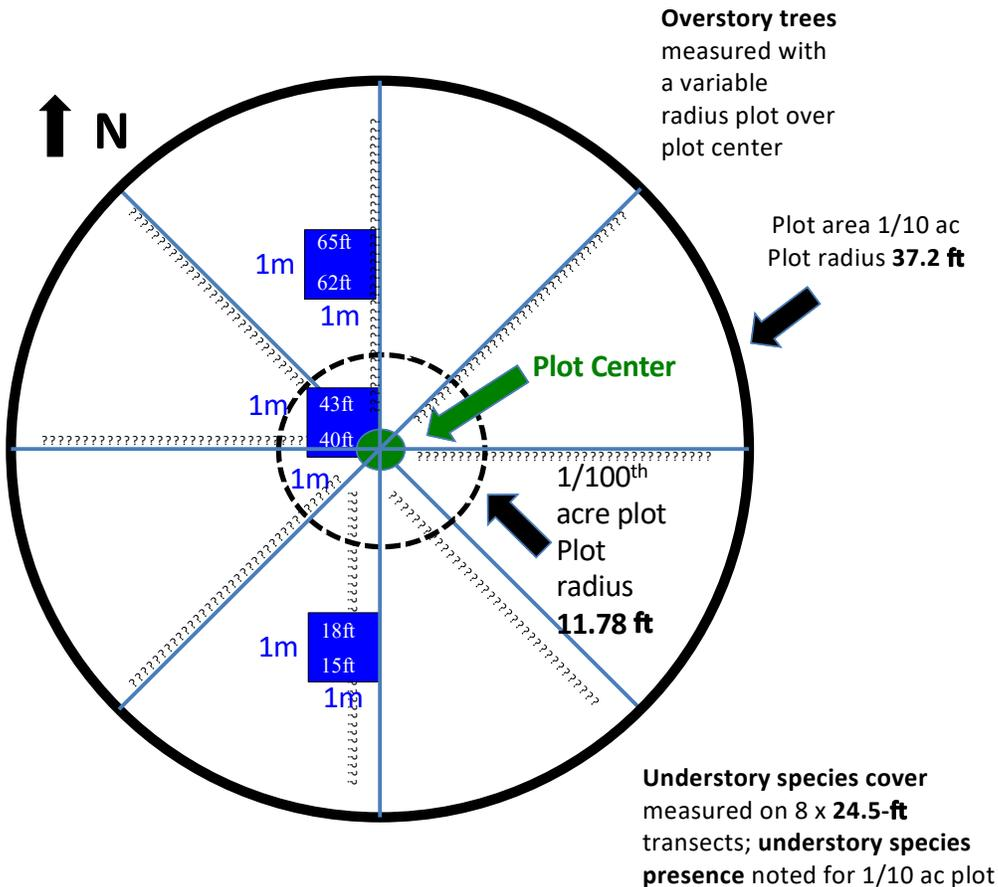

Figure 1. Diagram of the CFRI Forest Restoration and Fire Mitigation Effectiveness Assessment sample plot
3. Each of the three 1m² Sample frames are placed to the left (west) of the north-south transect as depicted in Figure 1. The frames should be located adjacent to the 15 – 18 foot mark on the tape (25 feet south of the center), at the plot center (40 – 43 foot marks), and adjacent to the 62 – 65 foot marks (22 feet north or center, refer to Figure 1). To avoid trampling vegetation and woody fuels, walk on the right side of the transect as much as possible.